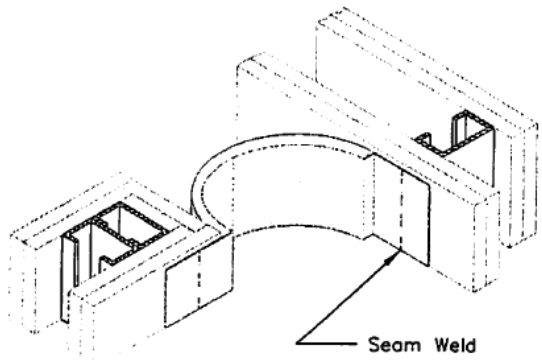
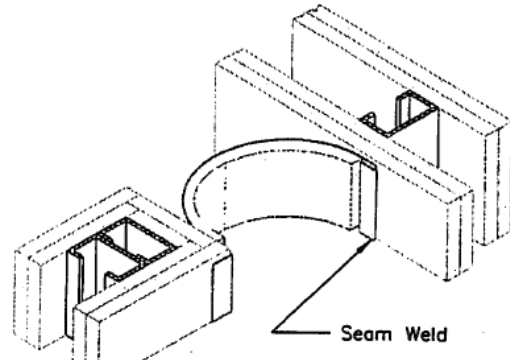

Fig. B3
Fig. C3
1. After completing material preparation described on page 1, place the fire barrier in the expansion joint. The foil flanges can be folded along the seam weld line onto the exposed face of the wall. The foil flange can be run out the wall on the other side of the joint. (Fig. B3) With the Low Profile galvanized flange configuration on the wall side, the foil flange can be folded over itself before the galvanized flange is fastened into place. (Fig. C3)